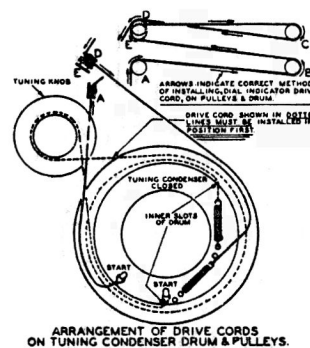

FIG. 3—Arrangement of Dial Pointer and Cables Models 39-3116
**NOTE B**—Dial Calibration: In order to adjust the receiver correctly the dial must be aligned to track properly with the tuning condenser. To adjust the dial, proceed as follows: With the tuning condenser closed (maximum capacity), set the dial pointer on the extreme left index line at the low frequency end of the broadcast scale. The arrangement of the drive cable is shown in Fig. 3.